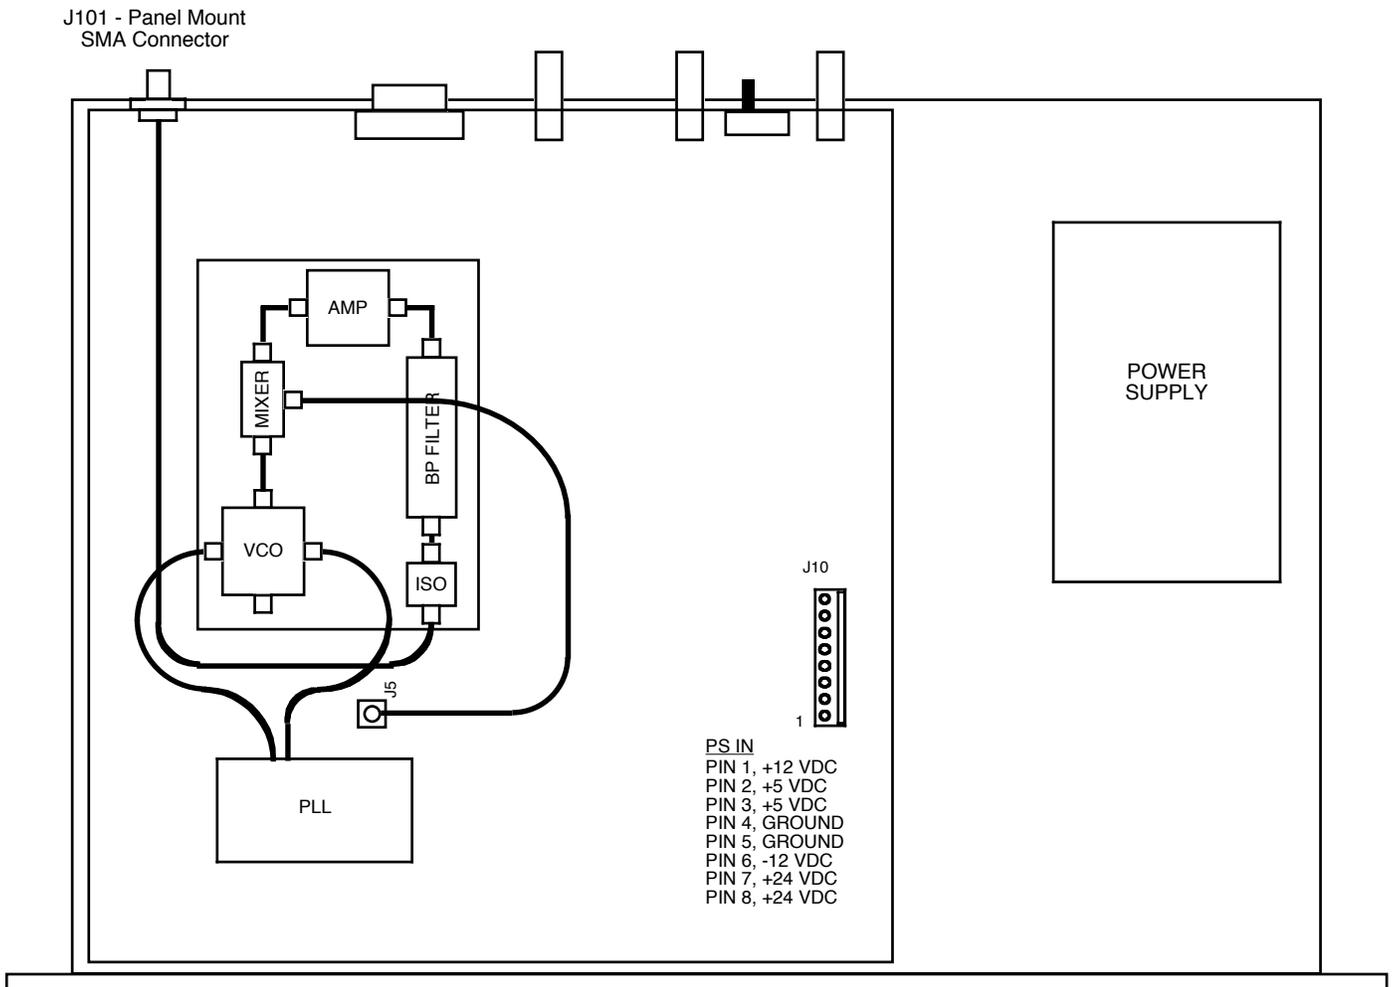

FIGURE 2.0 2115-140 Mechanical Assembly
2.1 Mechanical - The 2115-140 consists of one RF PCB housed in a 1 RU (1 3/4 inch high) by 12 inch deep chassis. A switching, ± 12 , +24, +5 VDC power supply provides power for the assemblies. The 2115-140 can be secured to a rack using the 4 holes on the front panel. Figure 2.0 shows how the 2115-140 is assembled.